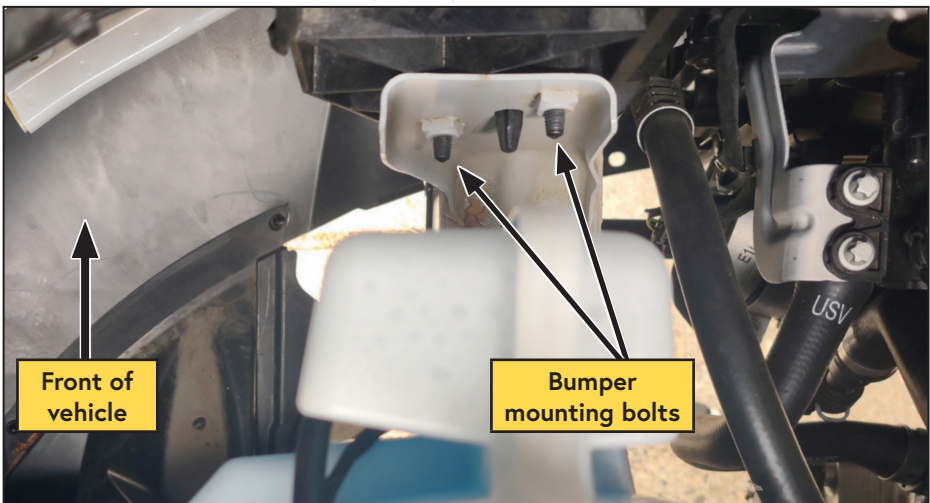

Figure 18 — Install compressor air filter bracket
- The air filter will mount to the driver side bumper mount (located in the void beneath the driver side headlight) (Figure 18).